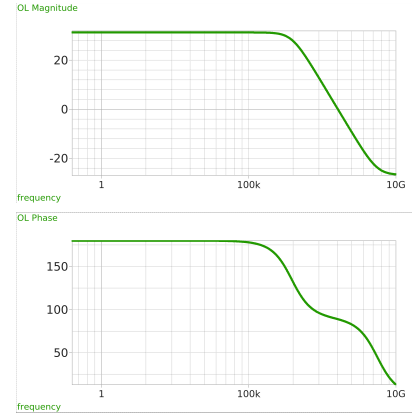

Figure 9: Xschem testbench inverter_tb_ac_ol (open-loop ac characterisation on inverter).
- `inverter_tb_ac_ol.sch`, open-loop ac characterisation (see Figure 9),